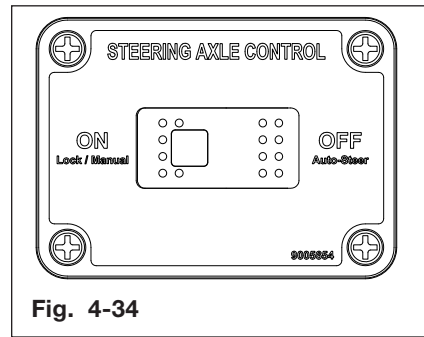

Fig. 4-34
1. Make sure the steering axle control switch is in the ON position. (Fig. 4-34)